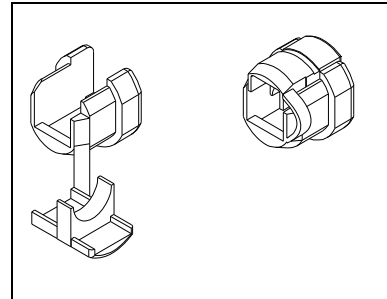
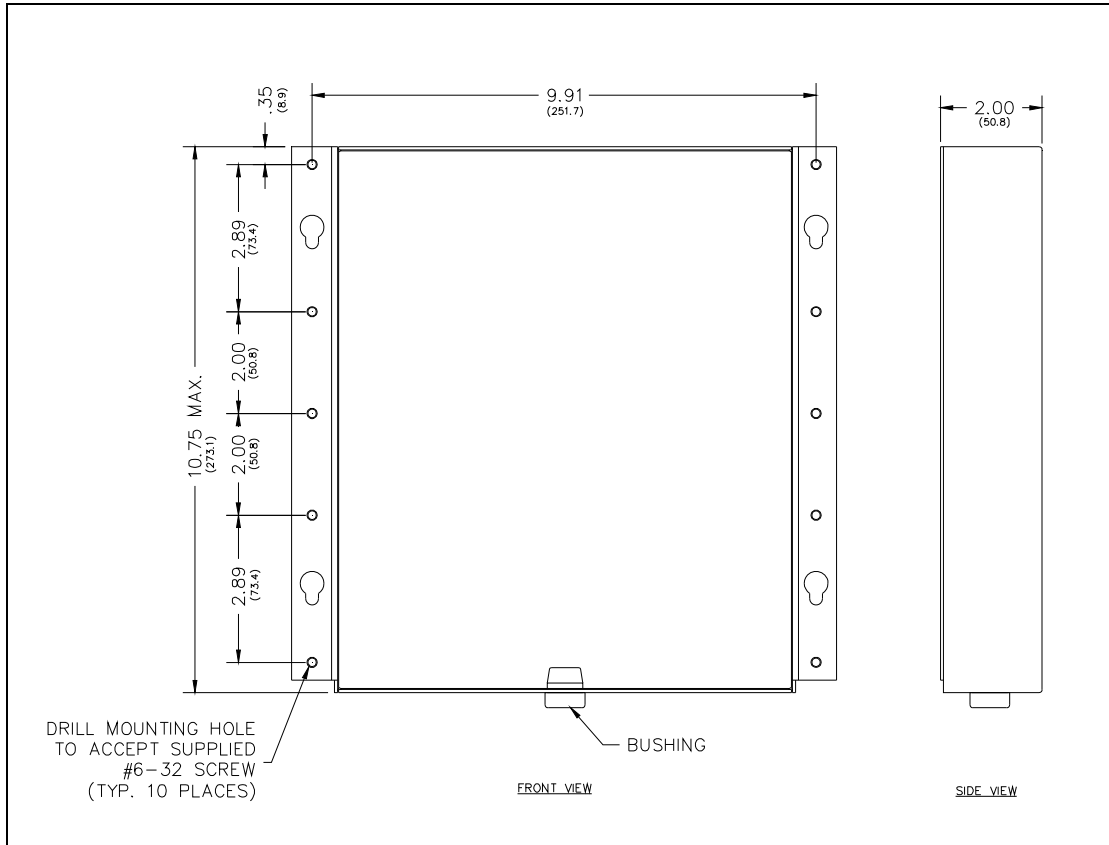
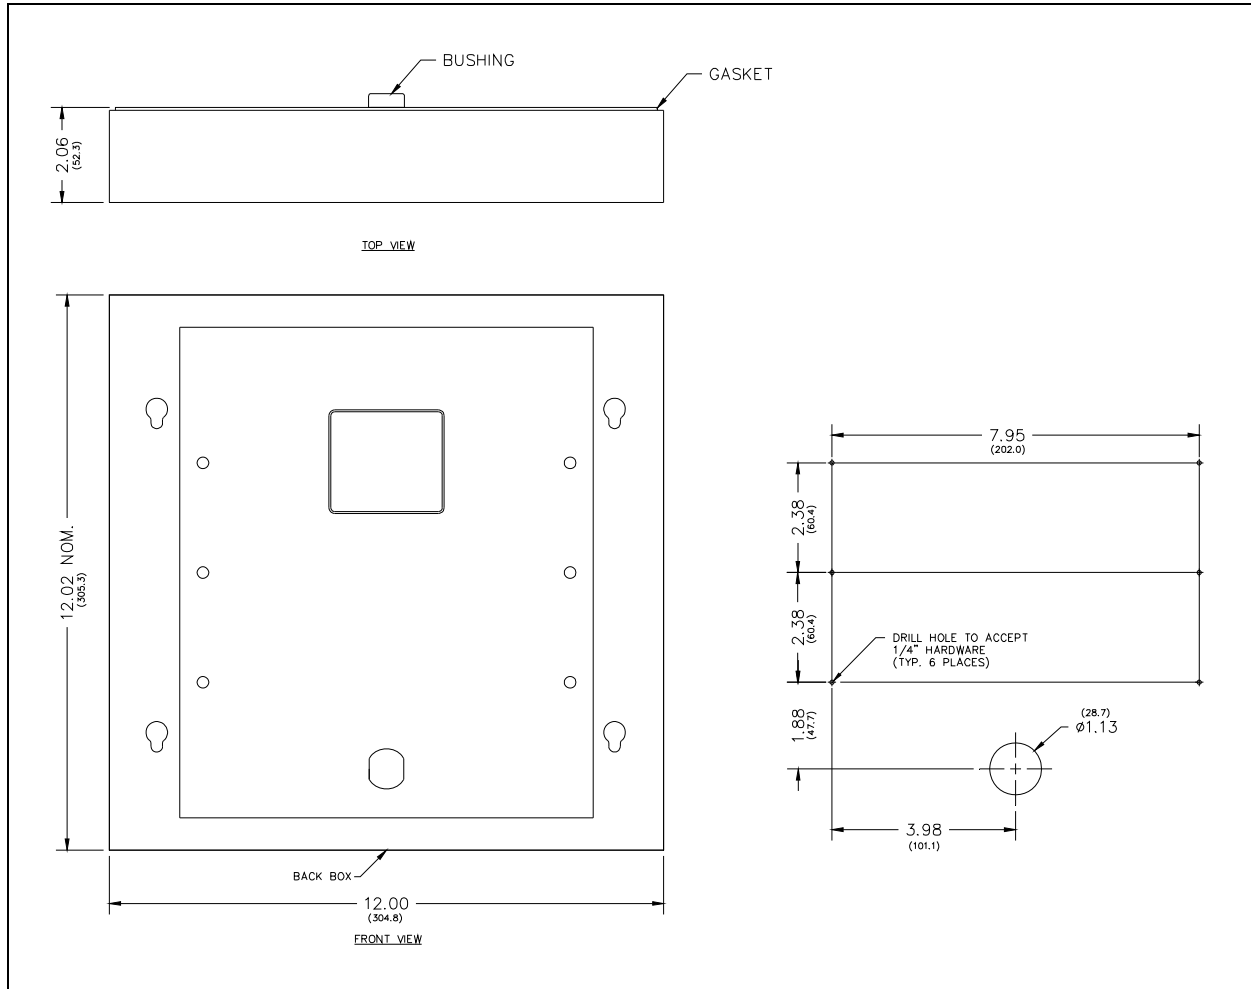

Figure 3. Bushing
Figure 6. Back Box for Model 295-702F
Figure 8. Mounting the Model 295-702W
3. If using Power-over-Ethernet, without any optional inputs or outputs, place the bushing around the Ethernet cable so that it is located approximately 5 inches from the end of the cable. Snap the bushing closed and insert into the double “D” hole in the bottom of the back bracket. See Figure 3 and Figure 6.
4. If using local power or optional inputs or outputs, route the cables through the “D” hole in the bottom of the back bracket. See Figure 6.
5. Place the back bracket in the wall. Locate the mounting holes. Refer to Figure 6.
2. If using Power-over-Ethernet, without any optional inputs or outputs, place the bushing around the Ethernet cable so that it is located approximately 5 inches from the end of the cable. Snap the bushing closed and insert into the double “D” hole in the back box. See Figure 3 and Figure 8.
3. If using local power or optional inputs or outputs, route the cables through the “D” hole in the bottom of the back box. See Figure 3 and Figure 8.